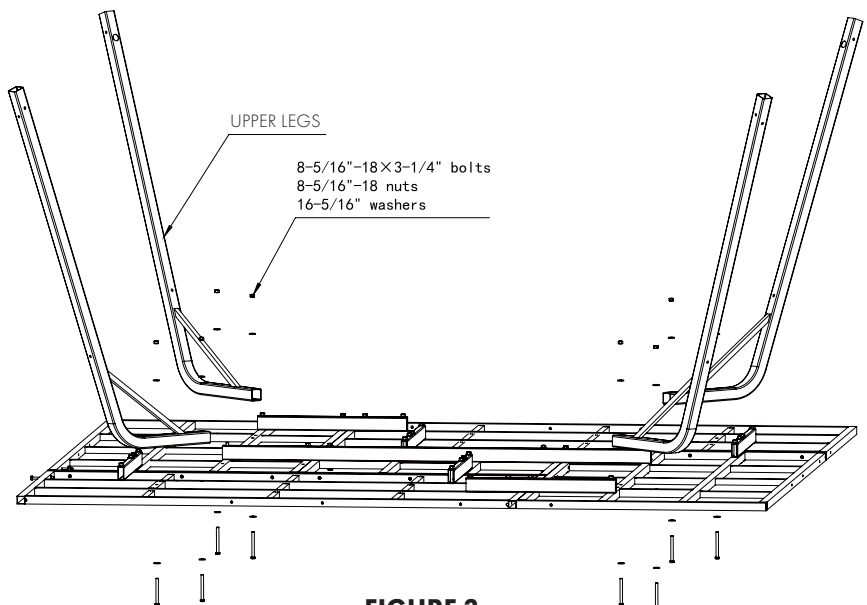

FIGURE 3
Attach the four **UPPER LEGS (#5)** to the assembled platform by using (8) 5/16"-18 x 3-1/4" bolts, (8) 5/16" lock nuts and (16) 5/16" flat washers (Figure 3). **Tighten nuts and bolts. Be sure to not over tighten.**